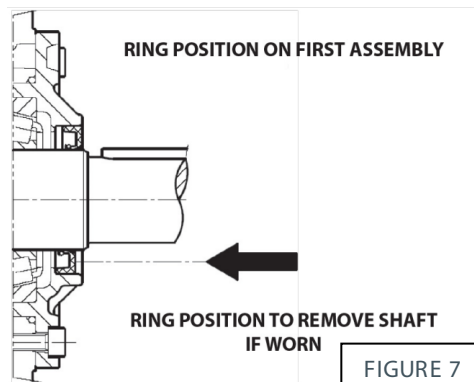

FIGURE 7
6. Before installing the crankshaft or the cover on the PTO side, check the condition of the lip seal and the relative contact area on the shaft. If replacement is necessary, position the new ring as shown in figure 7 (ring position on first assembly).
7. If the crankshaft shows wear in the relative area of contact with the lip seal, it is possible to reposition the lip seal as shown in figure 7 (ring position to remove shaft if worn).